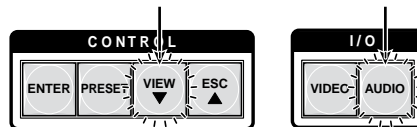

Figure 3-73 — RS-232/RS-422 and baud rate selection
3. **To change a value**, press and release the button that relates to the desired value (figure 3-73).